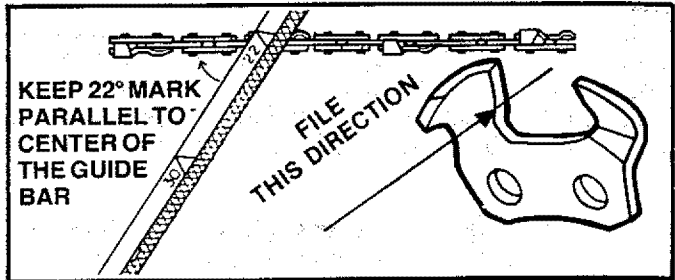

Figure 20
5. Hold the file holder level with the 22° guide mark parallel to guide bar. Figure 20.
6. File from inside toward outside of cutter in one direction only — 2 or 3 strokes per side plate should be enough Figure 20.